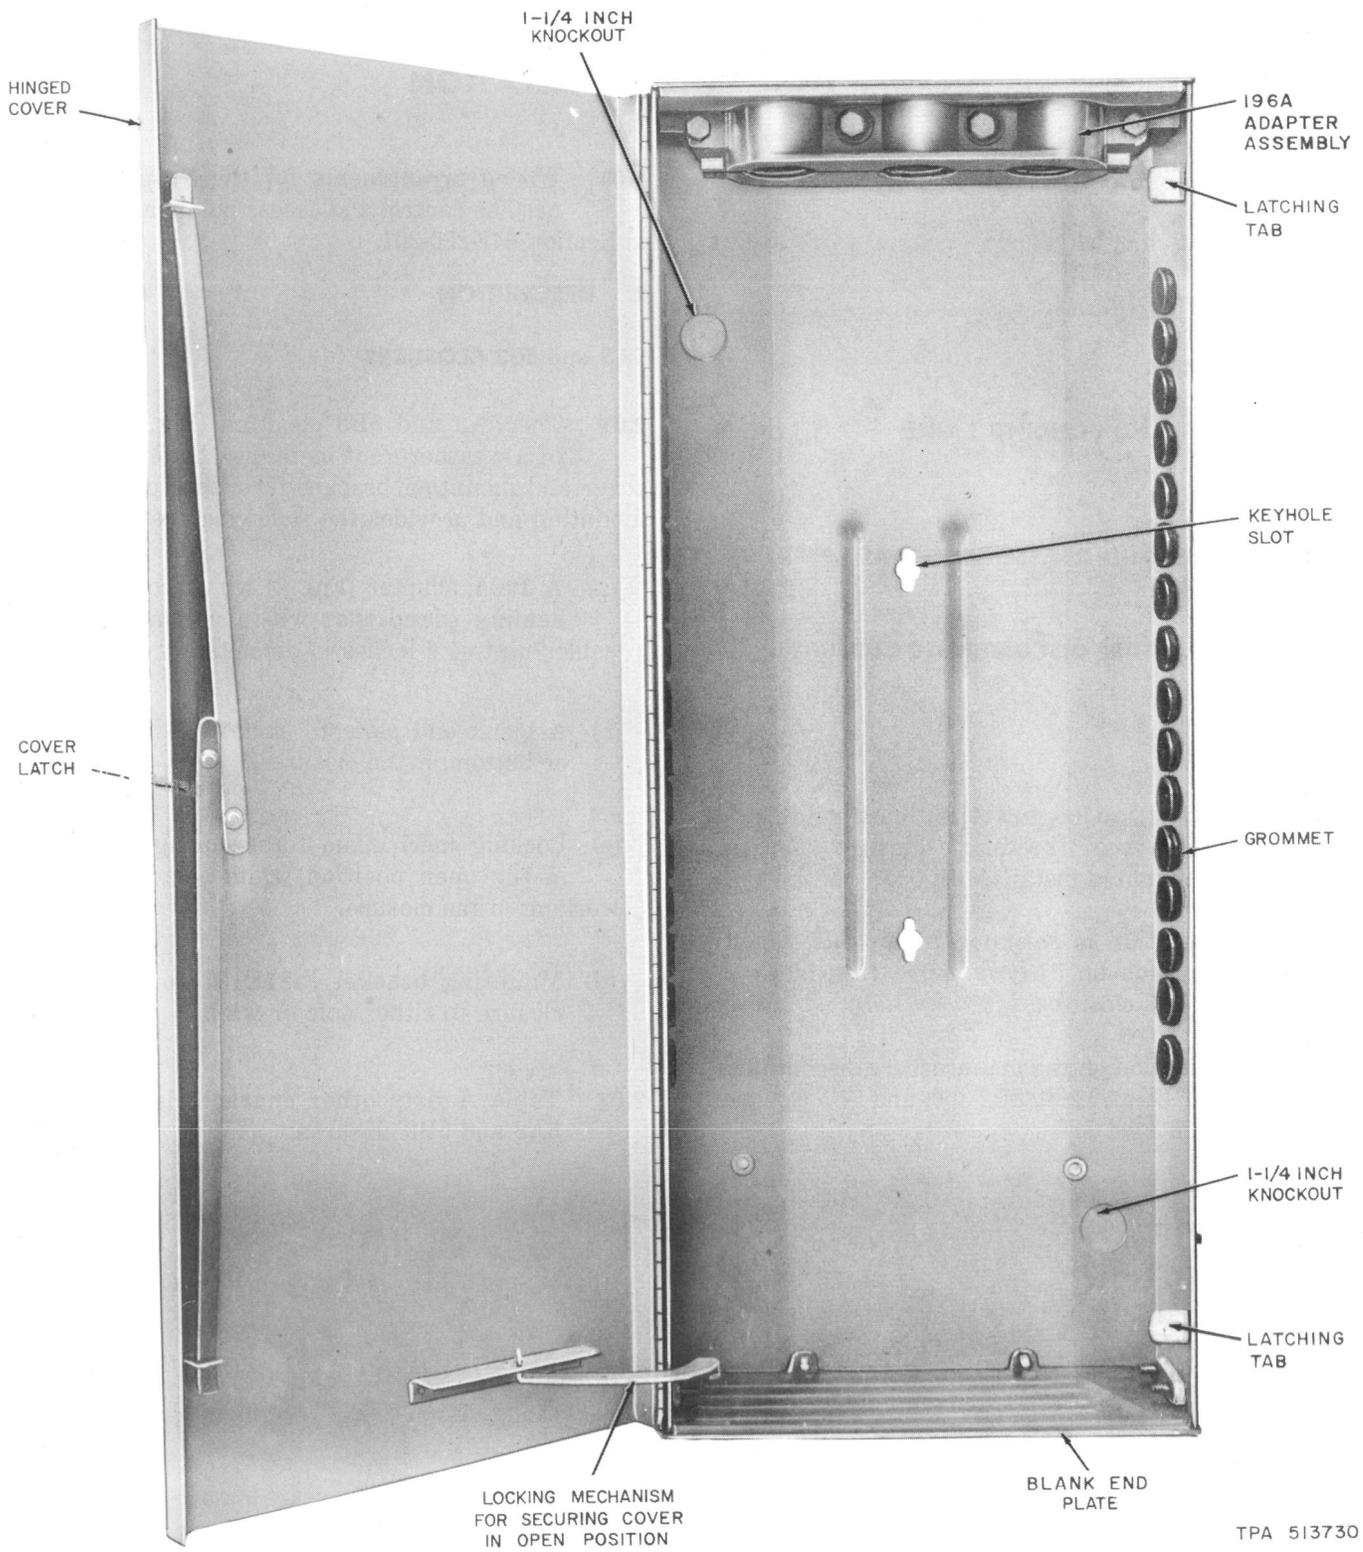

Fig. 1—5B3 Closure
2.01 The 5A3 and 5B3 closures (Fig. 1) consist of a weatherproof metal box having a hinged cover and mounting bracket for either pole or wall mounting and provides the following features.